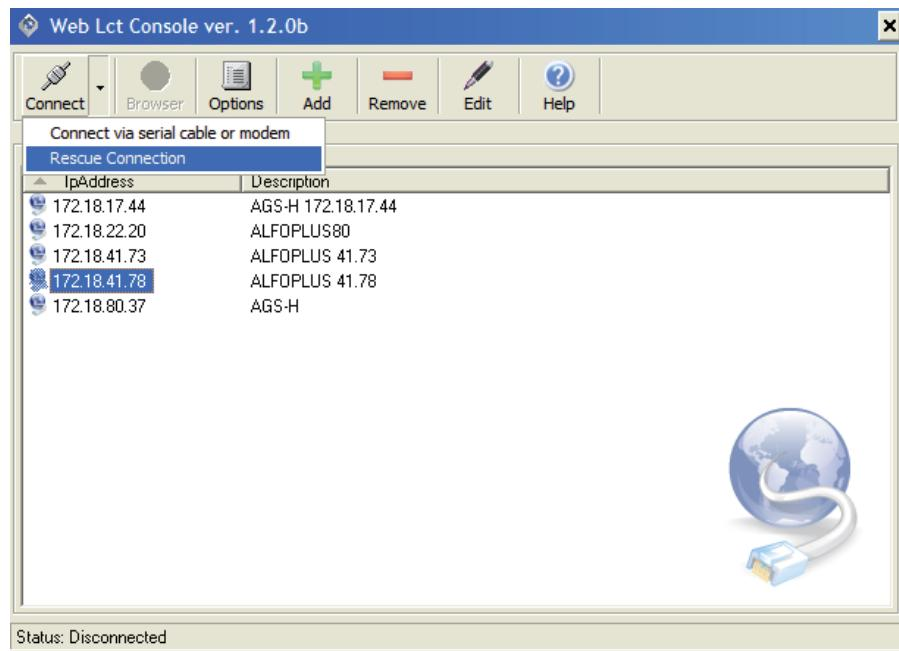

Fig.81 - Web LCT console
1. add the IP address of radio in the LAN address book (see Fig.81)
3. By WLC, press the arrow down near the button connect and press "Rescue connection" (see Fig.81)